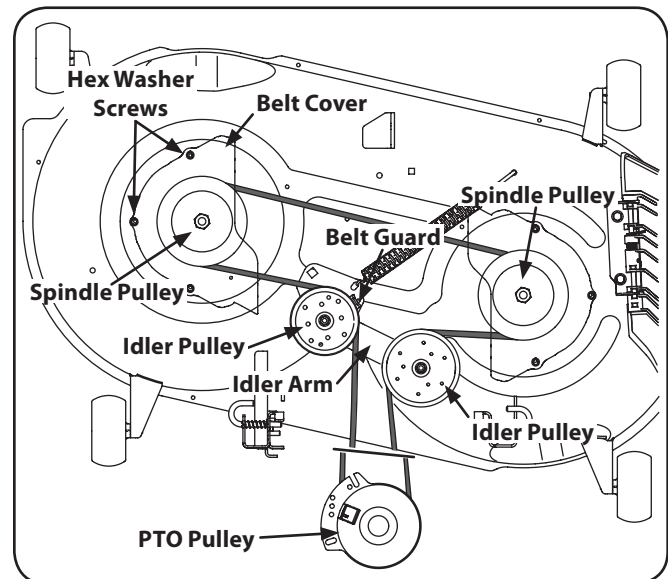

Figure 7-10
3. Remove the two idler pulleys by removing the hex screws and flange lock nuts that secure them to the deck and the idler arm. See Figure 7-10. Do not lose any of the hardware when removing the hex screw and flange lock nut.
6. Place the belt around the idler pulleys removed in step 3 with the "V" side facing in. Once in place, reinstall all the hardware and tighten the flange lock nut to secure the assembly. See Figure 7-10.
7. Route the belt as shown in Figure 7-10 and then reinstall the deck (refer to Deck Installation on page 30).